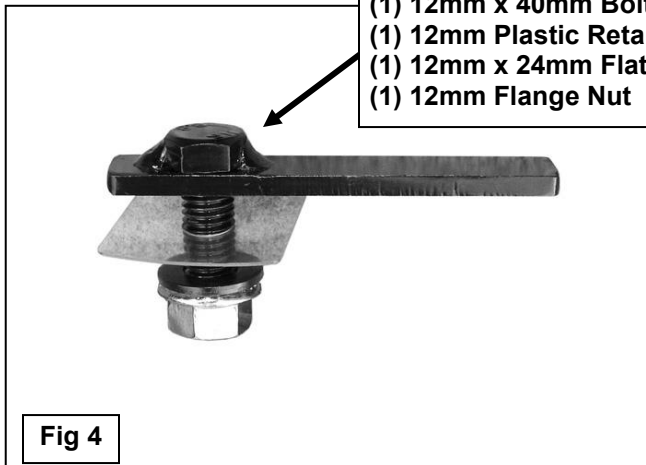
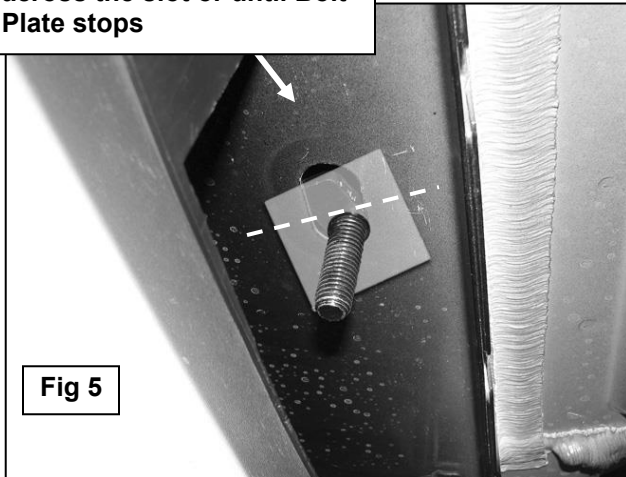

Fig 4
Fig 5
- Starting at the driver side, locate the (3) pairs of factory holes in the pinch weld, **(Figure 1 & 2)**. Move toward the front pair. Remove the rubber plug filling the oval hole in the bottom of the rocker panel in front of the two holes, **(Figure 3)**. Select (1) 12mm Bolt Plate and (1) 12mm Plastic Retainer. Partially thread the Retainer onto the Bolt Plate. Insert the Bolt Plate into the hole and rotate it 90-degrees to go across the slot, **(Figure 4)**. Thread the Retainer all the way down the Bolt Plate and tight against the body panel, **(Figure 5)**. **NOTE:** The Plastic Retainer is designed to prevent the Bolt Plate from falling into the body cavity and to aid in installing the Bracket.